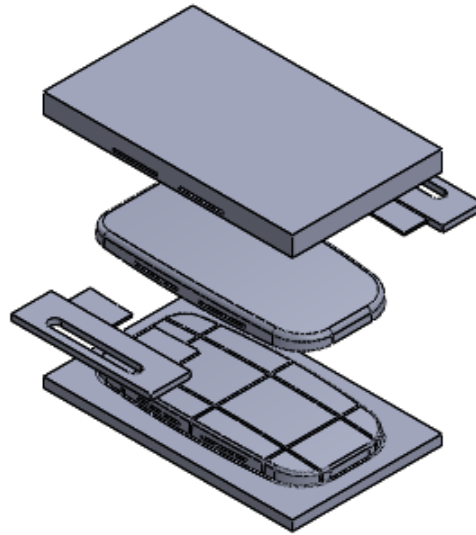

Figure 21-66 Exploded view of the Mold Base assembly
- j. Create the exploded view of the assembly, refer to Figure 21-66.
Next, you need to create the exploded view of the assembly, refer to Figure 21-66.